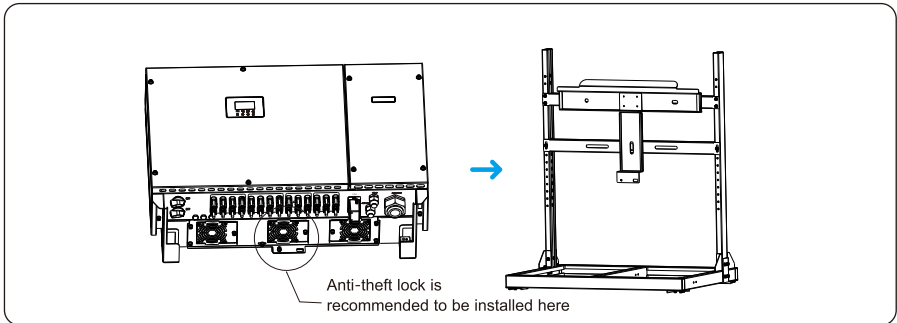

Figure 4.11 Tightening the inverter
Step 3 Mount the inverter on the support and tighten the inverter with rear panel using screws, as shown in Figure 4.11.